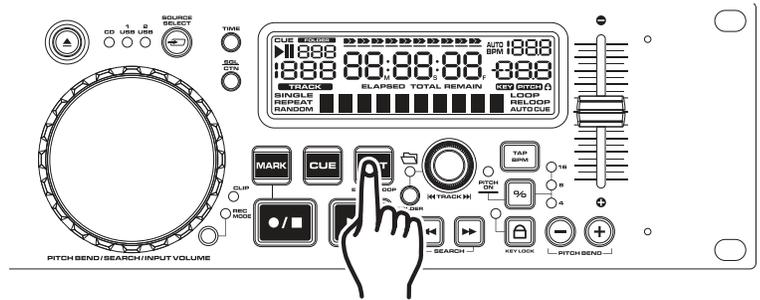

Figure 21
1) Press *PLAY/PAUSE BUTTON (16)* to activate playback mode.
2) Press the *OUT/EXIT/RELOOP BUTTON (18)* to set the ending point for your SEAMLESS LOOP (Figure 21). The OUT and CUE BUTTONS will flash indicating a SEAMLESS LOOP is playing. Press the *OUT BUTTON* again to exit the Loop.